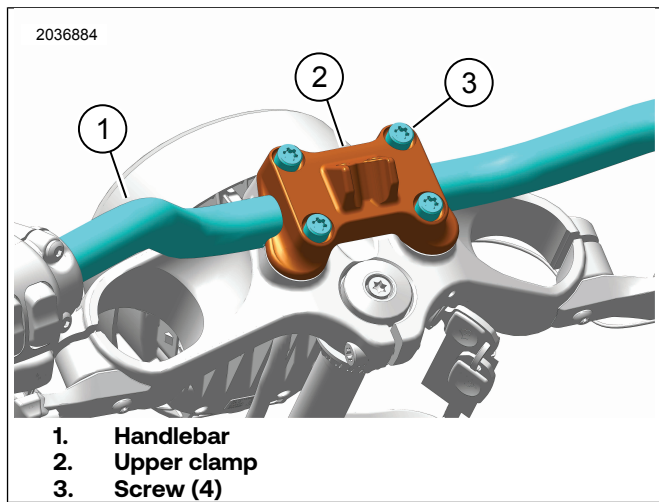

Figure 5. Upper Handlebar Clamp
- See Figure 5. Remove four screw (3).
- Remove upper clamp (2).
- See Figure 5. Install upper handlebar clamp.
- Install upper clamp (2).
- Install four screws (3) loosely.
- Position handlebar (1) as marked during disassembly.
- Secure rear clamp screws (3) first and front clamp screws second (3). Tighten.